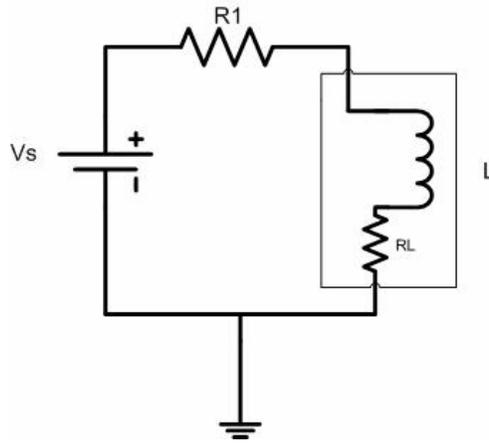

Fig.7.1 DC RL circuit
1. Assemble the circuit in Figure 7.1 with the component values shown in Table 7-1. By using Ohmmeter measure the internal resistance of the Inductor.